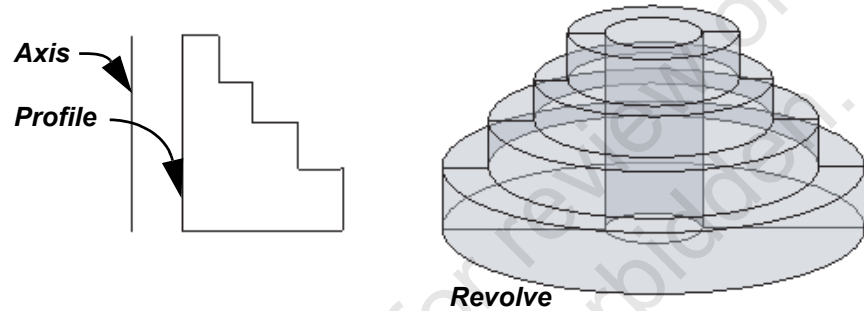

Figure 1–35
- When the axis is away from the profile, a hole is generated in the center of the revolve. To create an entirely closed shape, use a reference line for the axis, as shown in Figure 1–36.